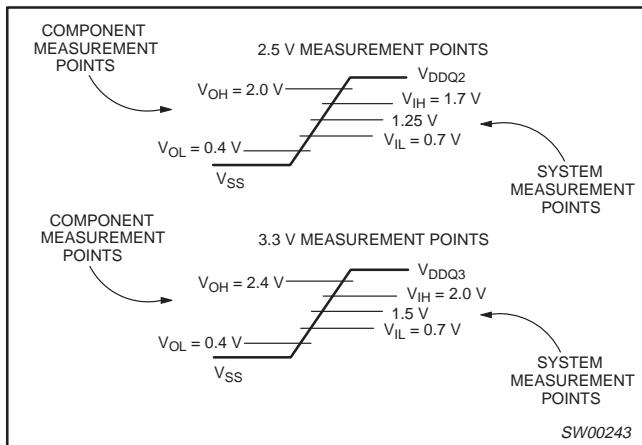

Figure 5. Component versus system measure points
1. See Figure 5 for measure points.
11. Output (see Figure 5 for measure points).